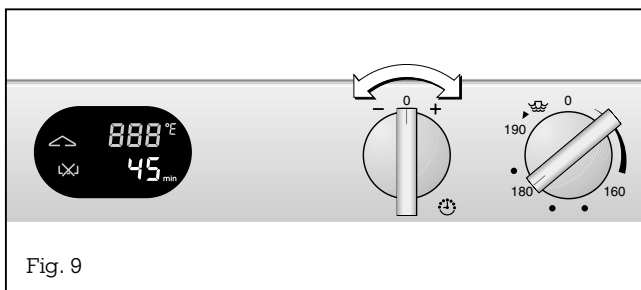

Fig. 9
**Turn the “Short time” knob** to the left or the right to set the short time you require (Fig. 9). The range that can be set is between 1 minute (01) and 90 minutes (90). The set time elapses on the display. If you turn the knob fully to the left, 90 appears in the display. After a few seconds, the chosen value is confirmed by an audible signal.